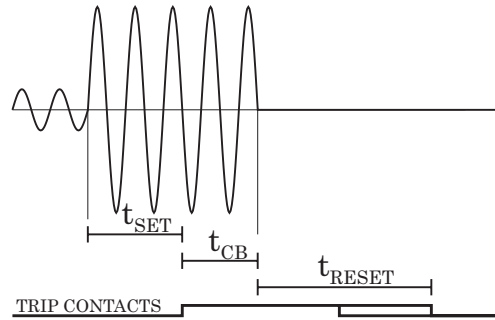

Figure 5.4: Reset time is the time it takes the trip or start relay contacts to open after the fault has been cleared.
Figure 5.4 shows an example of reset time i.e. release delay, when the relay is clearing an overcurrent fault. When the relay's trip contacts are closed the circuit breaker (CB) starts to open. After the CB contacts are open the fault current will still flow through an arc between the opened contacts. The current is finally cut off when the arc extinguishes at the next zero crossing of the current. This is the start moment of the reset delay. After the reset delay the trip contacts and start contact are opened unless latching is configured. The precise reset time depends on the fault size; after a big fault the reset time is longer. The reset time also depends on the specific protection stage.